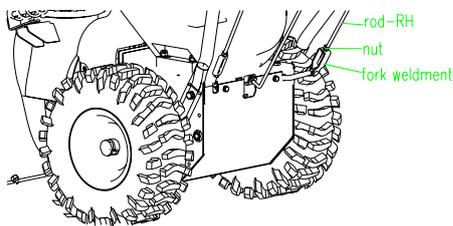

FIG 5
**2.4.1** Link the lower extreme of Rod-RH screw thread with fork weldment, and spin to limiting nut. (FIG 5)